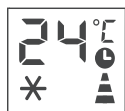

Fig 11
1. When the appliance is running, press the ⌚ button, the screen will display hours, and several symbols are flash together. (fig.11)